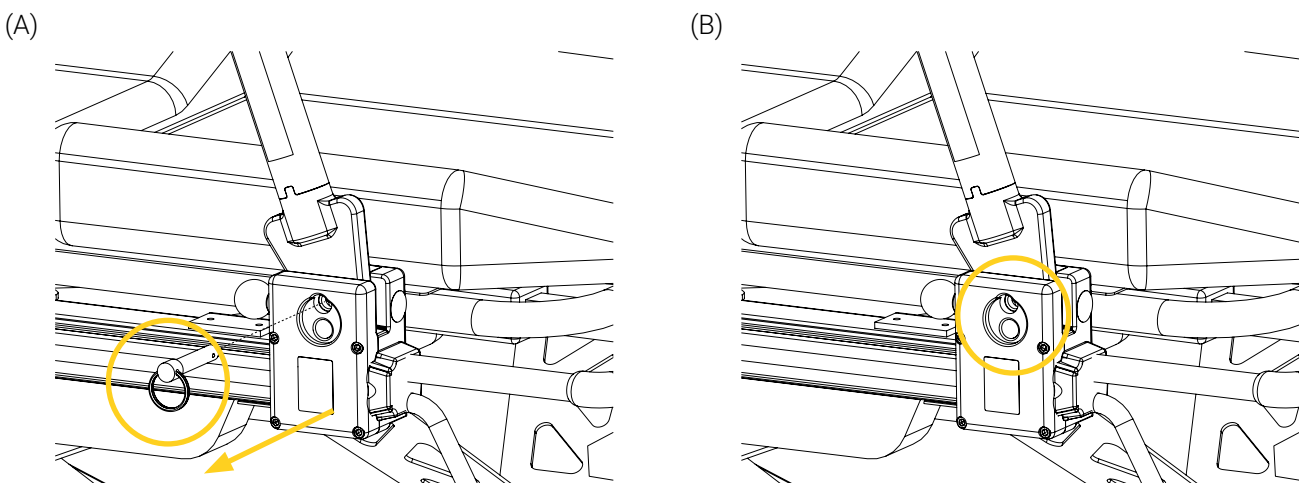

Figure 11: Removing the lock pin
2. Remove the lock pin of the clamp block using the finger ring (Figure 11), then set it aside momentarily.